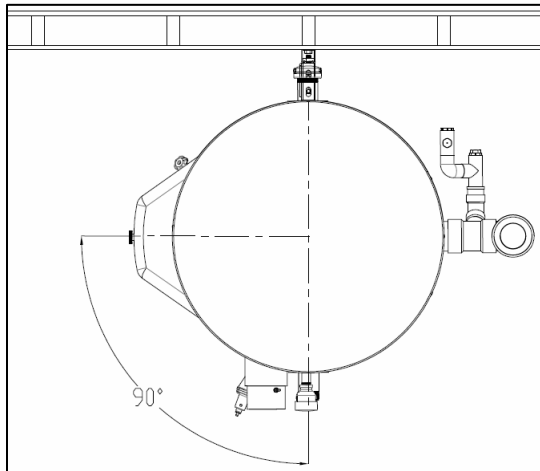

Figure 5: 90-deg orientation
Step 3: If necessary, install pipe caps over the Hot and Cold connections on the left side of the unit before positioning water heater against standoffs. If oriented per Figure 5 in the following step, it's recommended that the caps are installed prior to final positioning.
The water heater shall be oriented between a 50° and 90° angle of rotation (assuming the back of the unit is initially facing the wall). Figures 5 and 6 show the unit positioned at these angles. If the unit is positioned as in Figure 5, the condensate discharge may be pointed to the left or right side of the water heater.